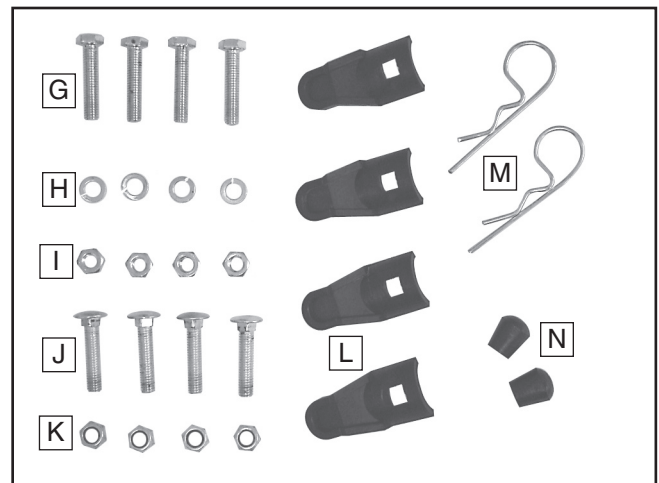
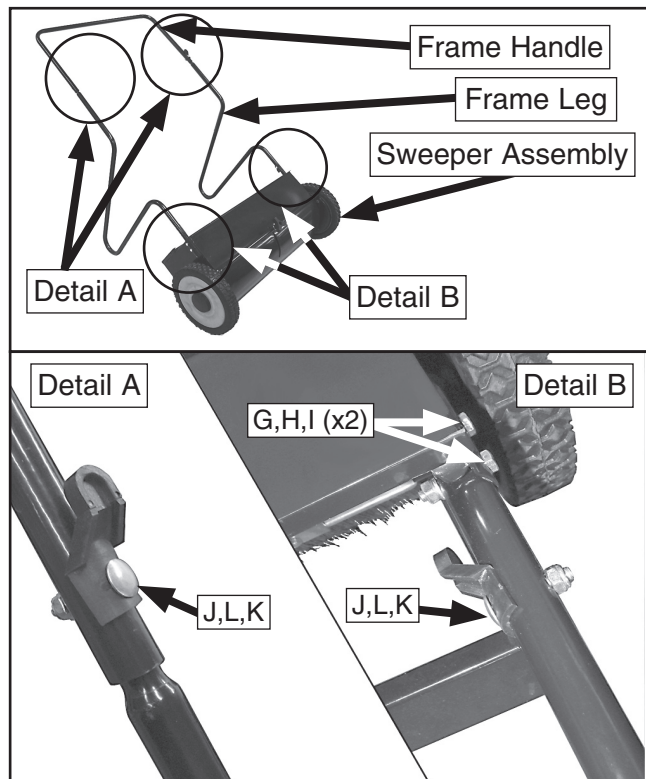

Figure 2. Inventory 2.
Figure 3. Frame assembly.
1. Assemble and attach the frame to the sweeper assembly as shown in **Figure 3**. Refer to **Figure 2** for hardware identification.